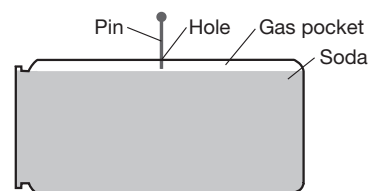

Figure 2.
3. This step can get messy and should be done near a sink or even outdoors! Remove the soda can from the swivel and lay the soda can on its side. Push a pin in the side of the can about half-way up, and then withdraw the pin (see Figure 2). *Note:* If the can is kept horizontal and the hole is made on the very top of the curve, soda should not squirt out of the hole!